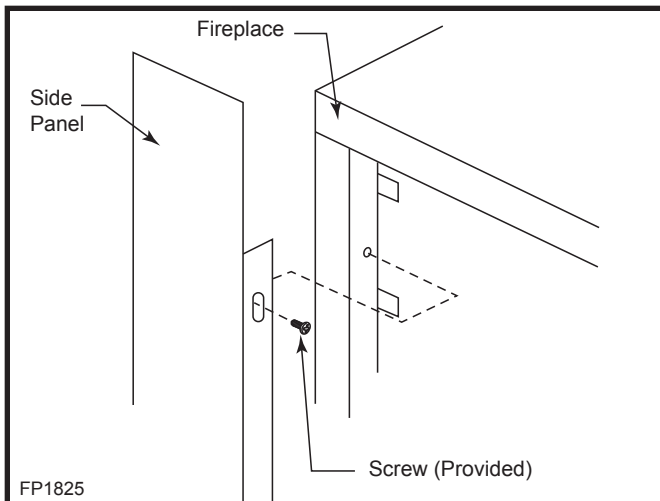

Fig. 31 Place side panel and secure with three (3) screws.
1. Place side panel as shown in Figure 31.